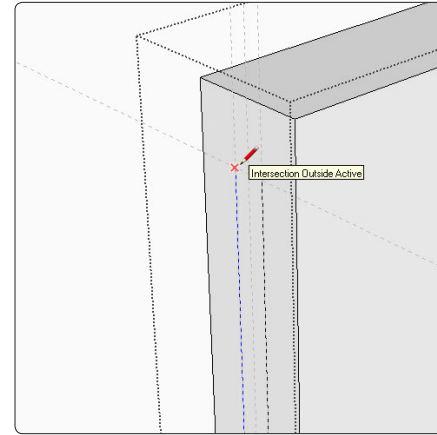

Figure 5. Use the Line Tool to trace over the guide lines.
Step 2 Right-click on the skirt component and choose Edit Component from the pop-up menu. (Note that the guide lines become pale once you select the component. That's because anything that's not part of the component you are editing is faded out.) Use the Line Tool to trace over the guide lines, drawing the boundary of the tenon, as shown in Figure 5. SketchUp will flag intersections to help you place the lines accurately. A typical mistake is to forget the Edit Component step and build the tenon in place but not as part of the component. Everything will look normal. But when you move the skirt component, the tenon will stay behind. Or when you copy the skirt, the copy will not have the tenon.